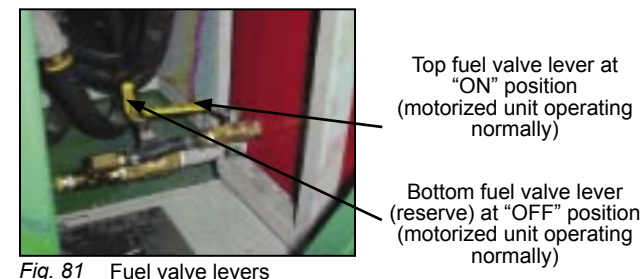

Fig. 81 Fuel valve levers
- 8- Turn the top fuel valve lever to the "ON" (operating) position (lever in line with the hose) (fig. 81). The bottom fuel valve lever (reserve, fig. 81) should be at the "OFF" position (at a 90° angle with the hose) and be used only to bring the motorized unit back to ground level to refill the gas tank.